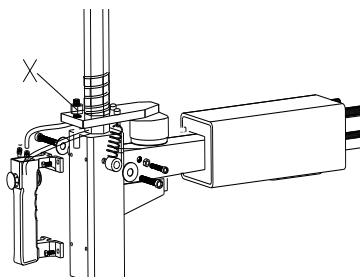

Fig 30
Note: If Vertical Arm not be locked or not meet the requirement that 2-3mm from the bottom of Mounting head/demounting head to rim, please adjust Hexagonal Locking Plate, refer to Fig 30 and adjust the (X).